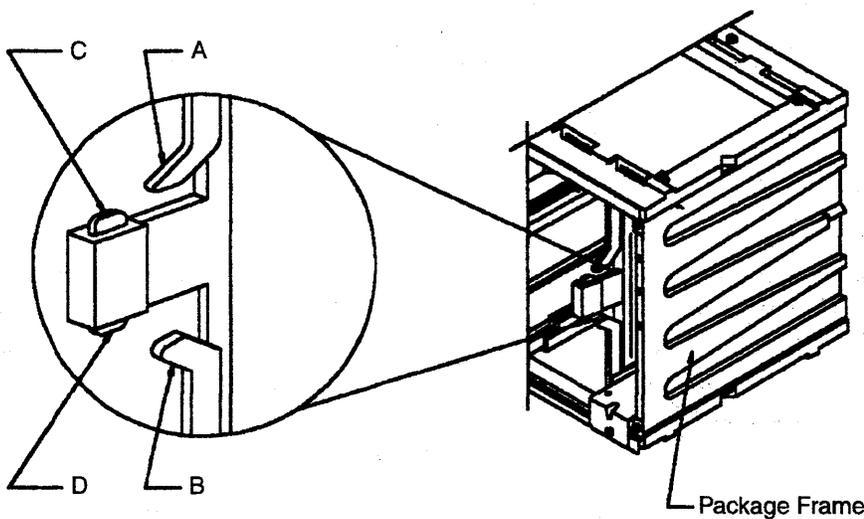

Figure 4-158. Card Clamp Mechanism
c. Check that the cards are labelled according to their positions. If they are not, label them. Refer to Figure 4-158 on page 4-170 and remove the cards as follows: